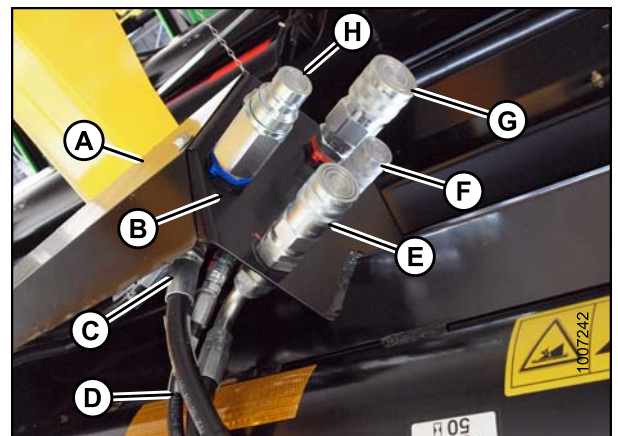

Figure 3.45: Hydraulic Coupler Components
1. Identify the hydraulic coupler components shown in Figure 3.45: *Hydraulic Coupler Components*, page 33.
2. Remove hose cover (A) from left-hand coupler mount.
3. Disconnect the side draper return hose (C) at the main return tee (refer to item [E] in Figure 3.45: *Hydraulic Coupler Components*, page 33).